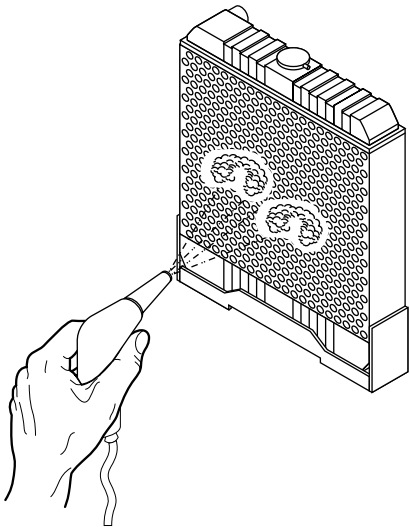

Figure 23. Radiator Cleaning
1. Blow off dirt and dust from fins and radiator with 28 psi (0.19 MPa) or less of compressed air (Figure 23). Be careful not to damage the fins with the compressed air.